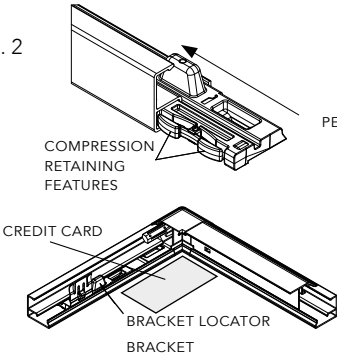

Fig. 2
3. Using a credit card measure to the highest point inside of the frame and fit the brackets into the bracket locator. Slide to line up with the punch holes in the Perfect Fit frame (fig. 2).
- 2. Slide the two corner joints into the bottom frame section and secure to the wall through the fixing hole in the corner joint, ensuring the frame is square and level (fig. 2).
4. Using a credit card measure to the highest point inside of the frame and fit the brackets into the bracket locator. Slide to line up with the punch holes in the Perfect Fit frame (fig. 2).